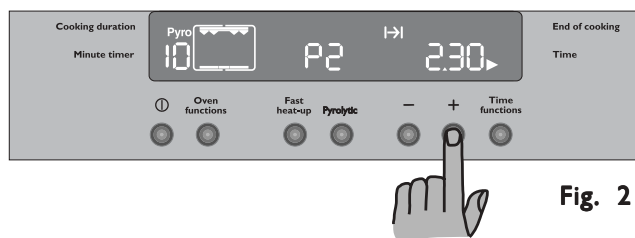

Fig. 21
2. The Cooking Duration symbol  will flash for 5 seconds; during this time push “” or “” buttons to select the pyrolytic 1 (P 1) or pyrolytic 2 (P 2) function (Fig. 21).